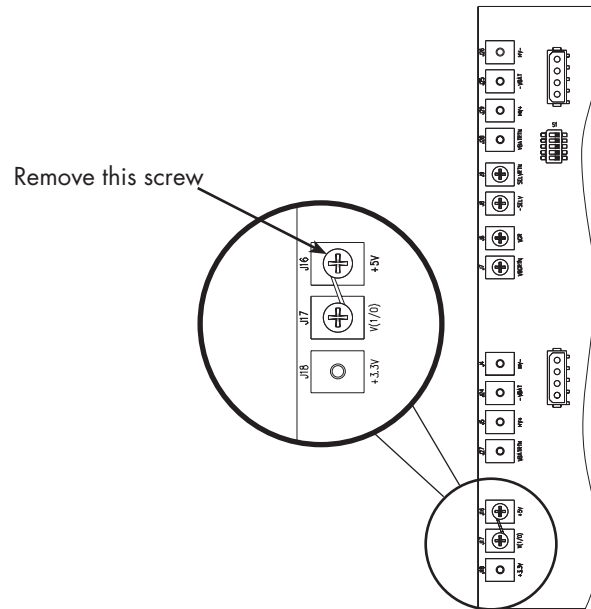

Figure 11. Removing 5V ring terminal screw and wire
- Using a phillips screwdriver, remove the screw and wire from the 5V ring terminal (labeled J16) (see figure 11). Do not remove the wire from the V(I/O) terminal (labeled J17).